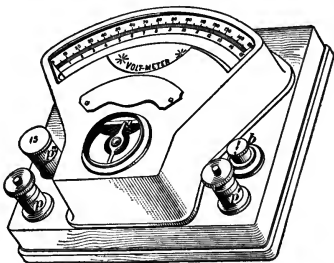

FIG. 46.
**58.** The Weston voltmeter, Fig. 46, is based upon the same principles as the Weston ammeter, and in appearance is quite similar to it. Its internal resistance, as in all voltmeters, is exceedingly large; the resistance of a Weston voltmeter for indicating up to 150 volts is about 19,000 ohms, while the resistance of a Weston ammeter, measuring strengths of currents up to 15 amperes, is only .0022 ohm. It will be seen that, owing to the great resistance, the current passing through a voltmeter is exceedingly small. For example, in the instrument described above, when indicating 150 volts, the current, by Ohm's law, is only  $150 \div 19,000 = .0079$  ampere. All voltmeters are provided with at least two terminals, or binding posts, such as  $p$  and  $p'$ , Fig. 46. Connections are made by two separate conductors, called *voltmeter leads*, from these binding posts to two points between which the difference of potential, or the electromotive force, is to be measured.